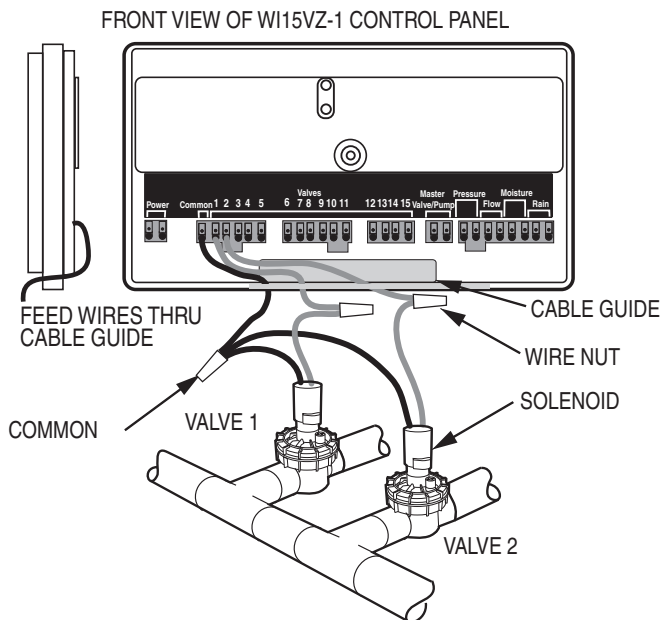

Figure 4. Wiring Valves to Controller
2. Connect the Common wire to (1) one of the valves. (For simplicity only two valves are shown in diagram below. A maximum of 15 valves can be wired to the controller. Connect the other wire of each valve to a corresponding wire of the cable bundle. All connections should be made with wire nuts. To prevent electrical overload one common wire should be connected to each valve and only one valve should be connected to each station (See Figure 4).